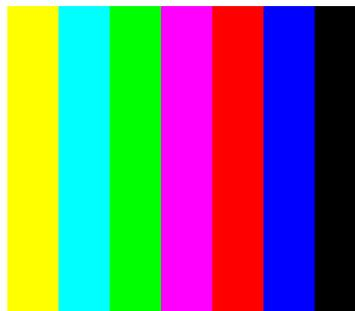

Figure 11. Example of Color Bars Test Pattern
15. As noted in Table 4 and Table 5, there is no user programmability associated the color bars test pattern. This pattern is made up of eight vertical color bars: white, yellow, cyan, green, magenta, red, blue, and black. For this pattern, the system automatically determines the width for each color bar based on the size of the display (DMD). An example of the color bars pattern is shown in Figure 11.